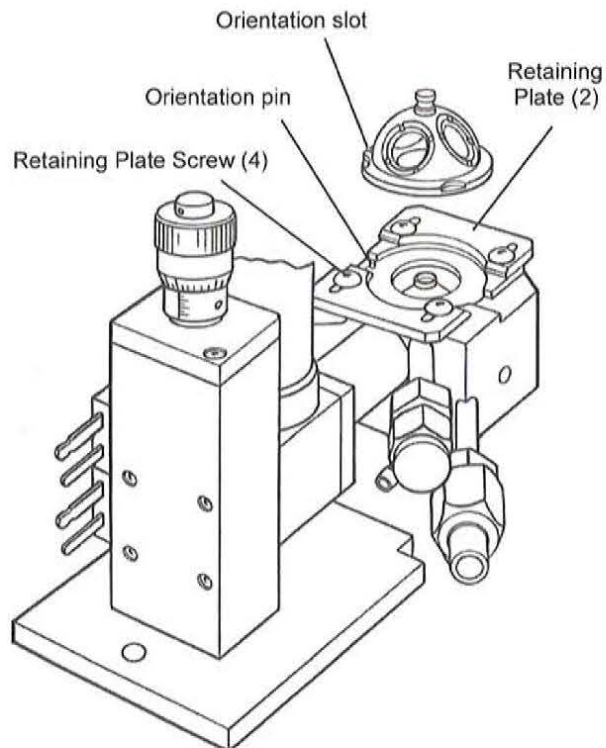

Figure 17 • Installing the CHC Dome
- Install the dome making sure that the orientation slot on the dome engages the orientation pin on the CHC (Figure 17).